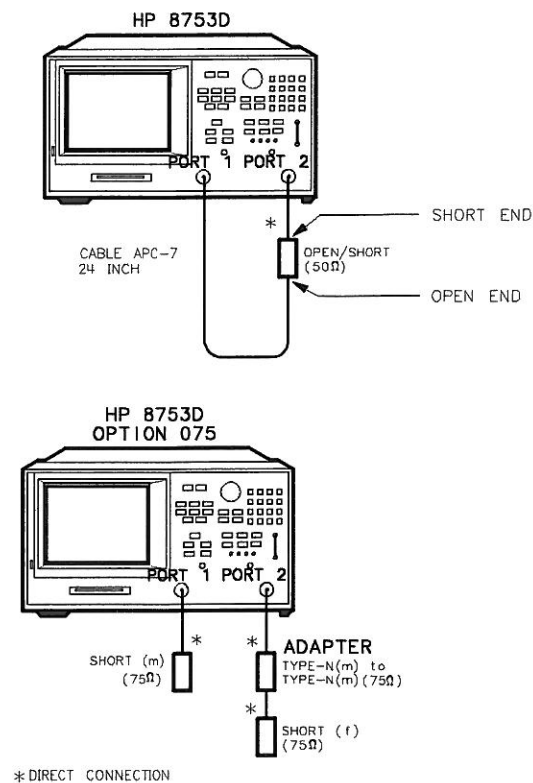

Figure 1-31. Test Port Crosstalk Test Setup
1. Connect the equipment as shown in Figure 1-31.